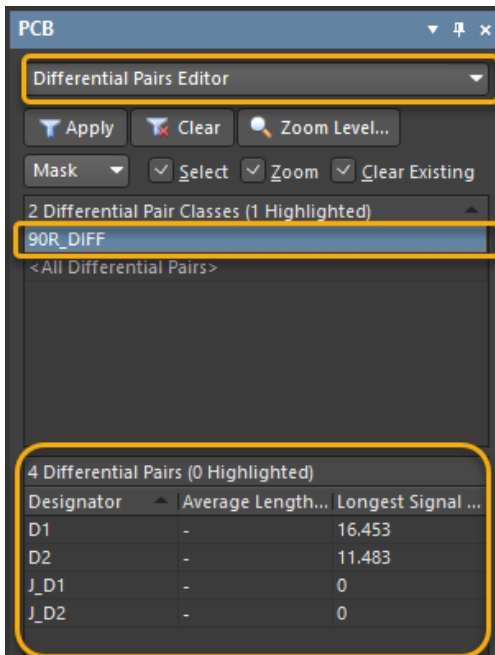

Figure 12. Differential Pairs Editor
20. Select the **Differential Pairs Editor** from in the *PCB* panel, and notice the four differential pairs in the PCB, Figure 12.